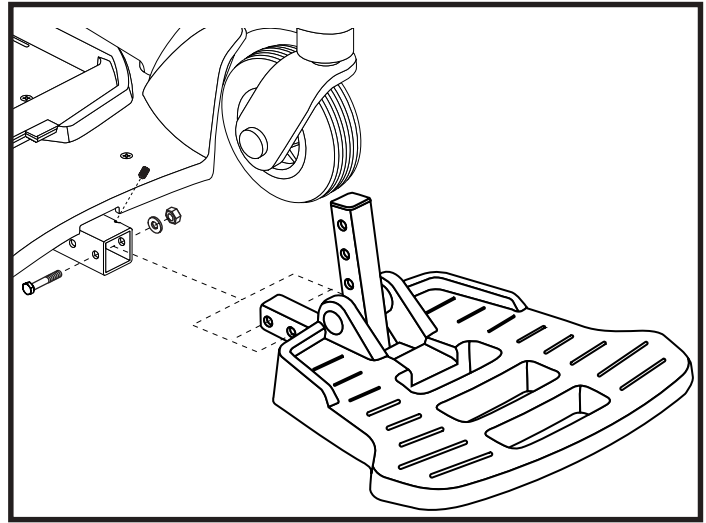

Figure 14. Foot Platform Depth
1. Remove the hardware from the foot platform bracket. See figure 14.